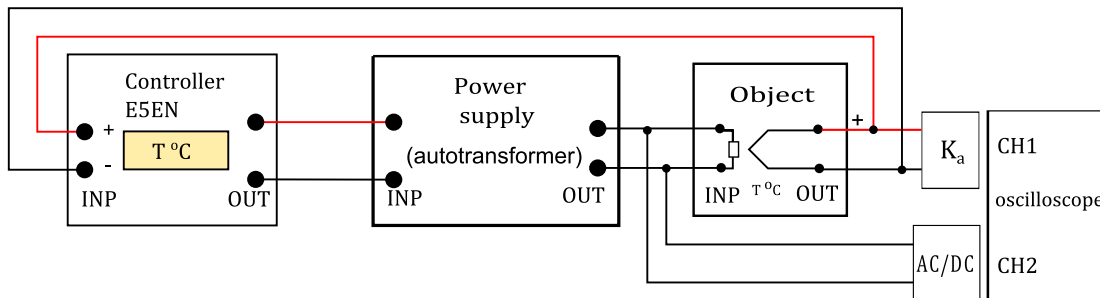

Figure 2: Controller + object
- ✓ Make a circuit, see Fig. 2.